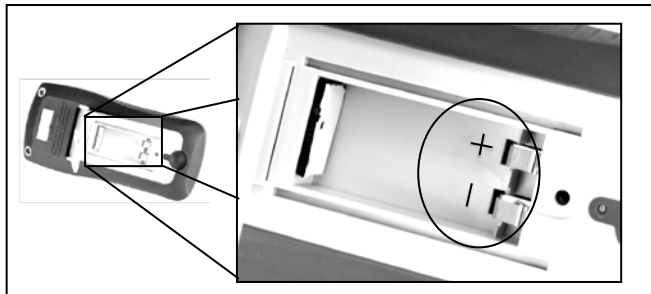

Figure 5 - Battery Compartment
2. Insert 9V battery into compartment. Note the positive (+) and negative (-) terminals as indicated inside the battery compartment (See Figure 5). Be sure to insert the battery with matching polarity.